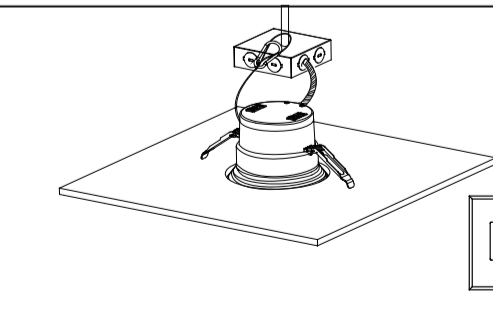

Fig6
**Step 6:** Turn on the power to confirm the fixture is working properly, see Fig6.